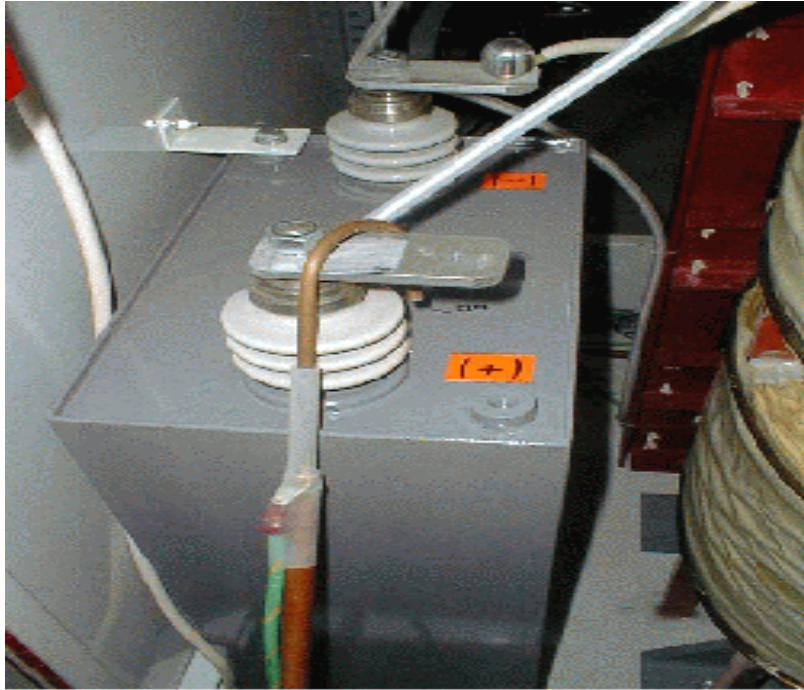

Figure 5
5.4.1.6 Open the Anode Power Supply access door and ground the inner shield and inner conductor of the RG219 anode supply cable. Then, place the Ground Stick at the positive terminal of the High Voltage capacitor (located at the floor at the right side of the Anode Power Supply Cabinet (see Fig. 5).
3. Figure 5 - Positive Terminal of the High Voltage Capacitor